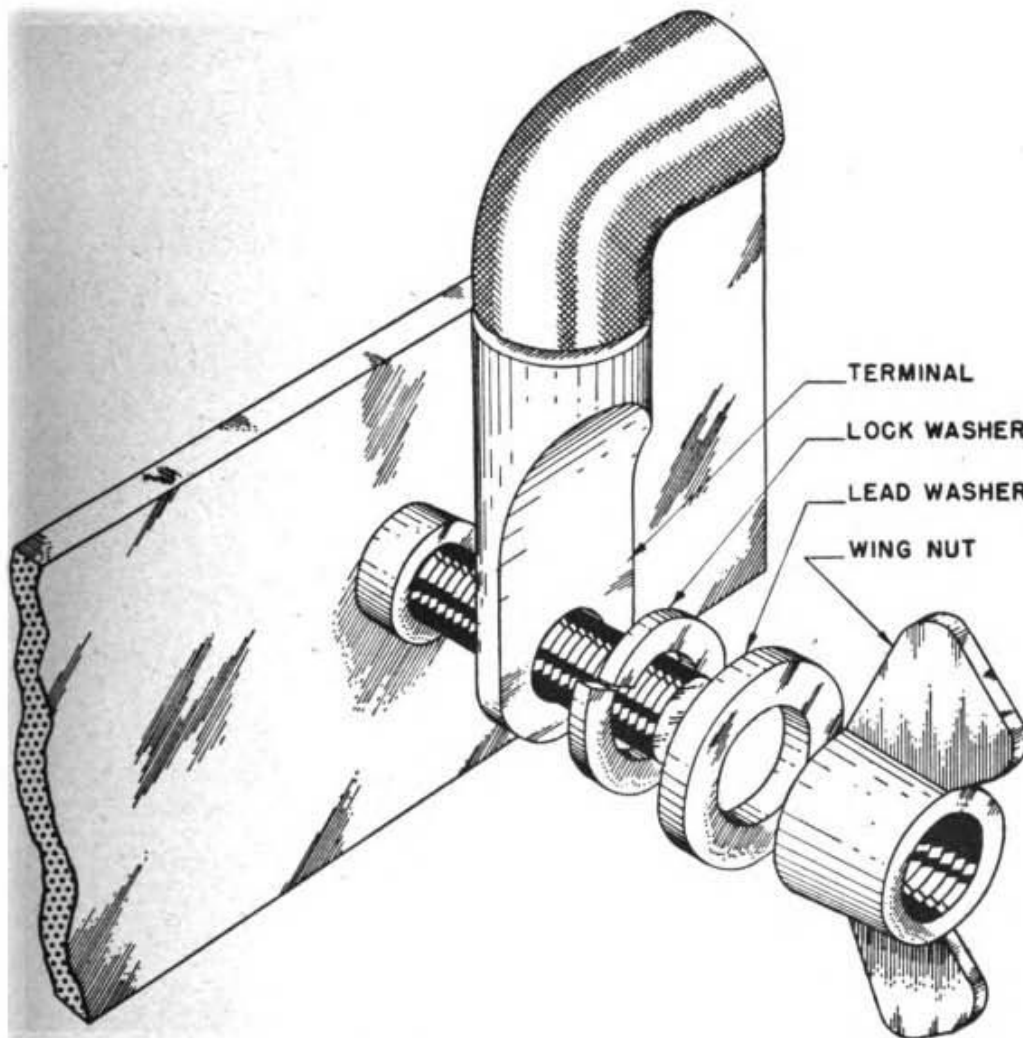

Figure 60. Proper method of connecting battery terminals.
- (1) Inspect the battery drain sump (on installation so equipped). Remove the cover and inspect the felt pad. If it is covered with a flaky deposit, it should be removed, washed in clear water, saturated with bicarbonate of soda solution, and reinstalled. If the sump body is corroded, it should be cleaned and then painted with acidproof paint.
- (2) Check for leakage of acid due to a cracked case or defective sealing compound. If leakage is found, the battery will be removed, the container repainted with acidproof paint, and a new battery installed. Connect terminals as shown in figure 60.